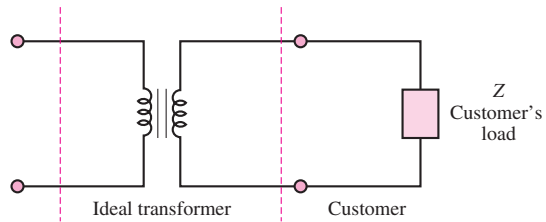

Figure P7.35
**7.35** An ideal transformer is rated to deliver 460 kVA at 380 V to a customer, as shown in Figure P7.35.